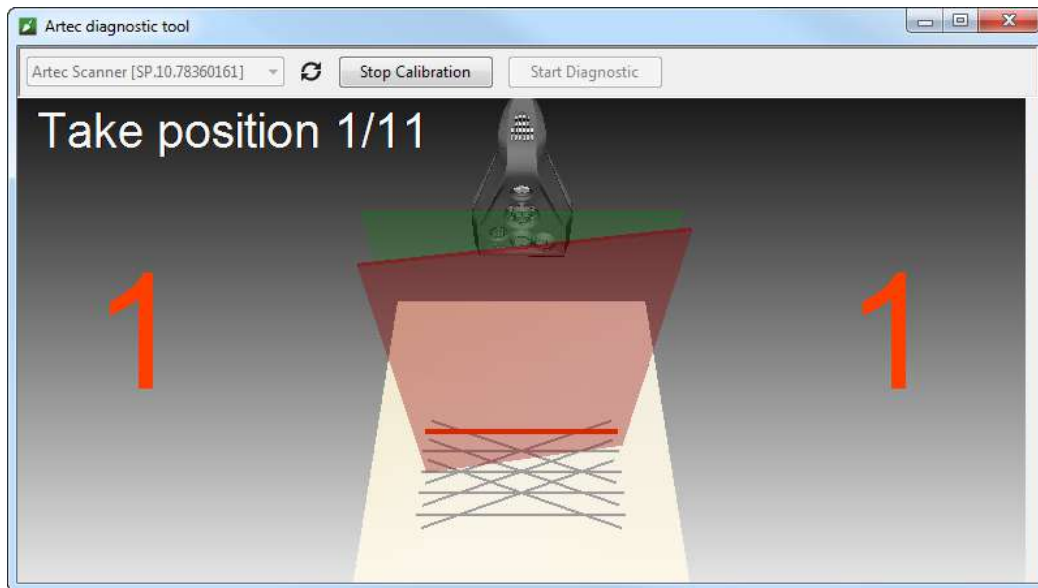

Figure 166: Moving calibration rig to position number 1.
7. Place the rig in its initial position such that the front edge of its base coincides with the color line numbered 1 on the pattern. As you do so, also keep an eye on the *3D View* window for a red plane (current position) and a green plane (target position)—see Figure 166. Once the red plane coincides with the green one, stop moving the rig and wait for the scanner to capture the plane.